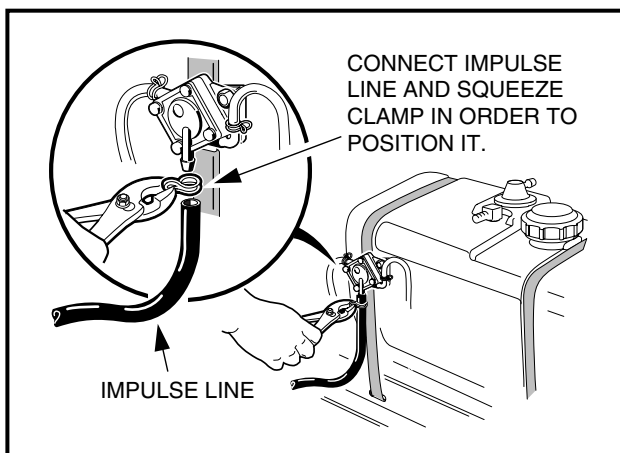

FIGURE 10-102
24. Connect the impulse line to the fuel pump and secure it with the hose clamp (**Figure 10-102, Page 70**).